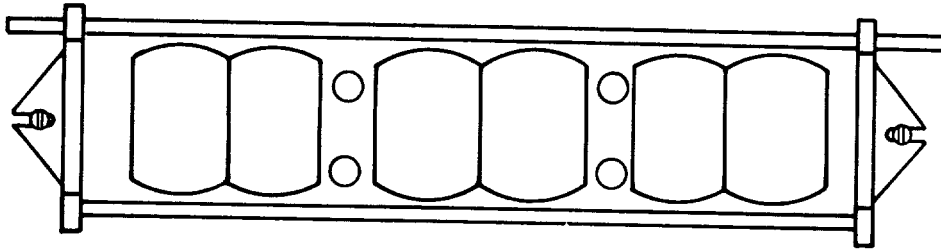

Figure 1-4. Remote Display, Digital Clock
g. *Remote Display, Digital Clock*. Refer to figure 1-4. The remote display is mounted to a bracket. This bracket is mounted to the ceiling over the corner console opposite the cabinet safe. It requires pulses from the master clock in the radio maintenance central (shelter no. 5 of the OUTS complex) for operation.